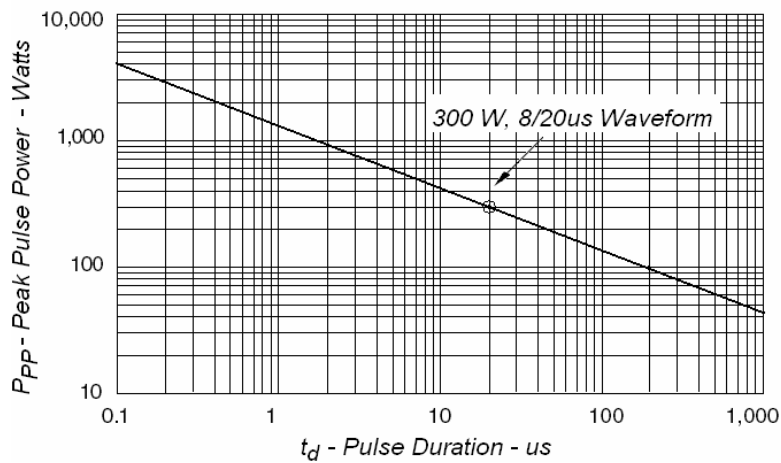

Fig1. Peak Pulse Power VS Pulse Time
*Surge current waveform per Figure 1.